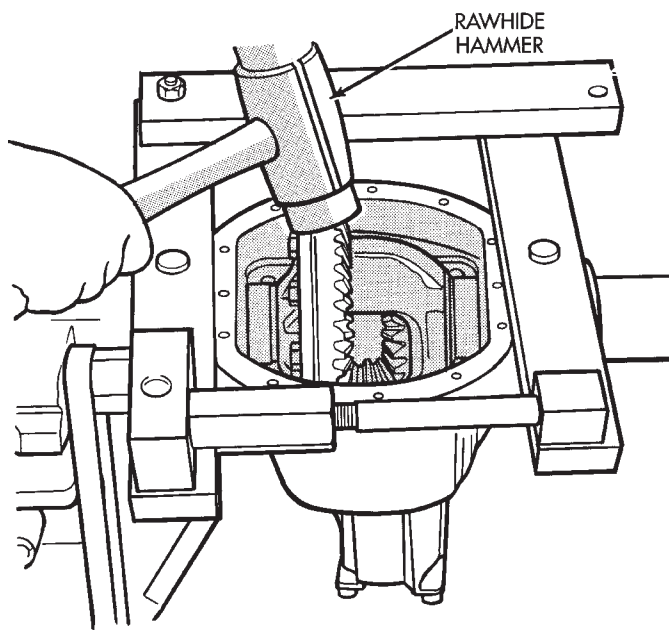
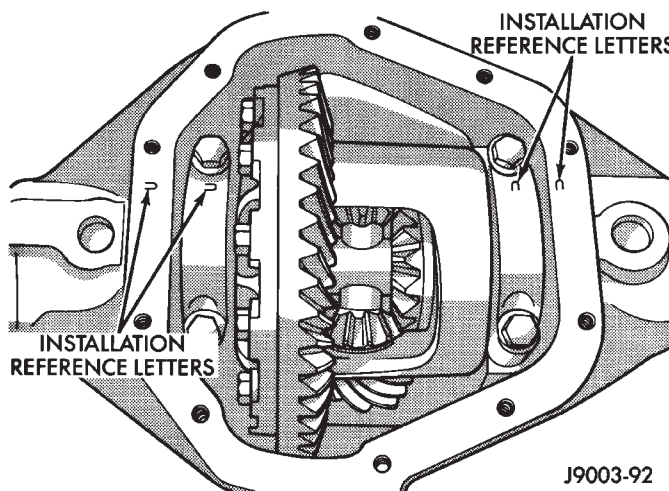

Fig. 30 Differential Installation
Fig. 31 Differential Bearing Cap Reference Letters
- (4) Remove the dial indicator.
- (5) Install differential and outboard shim(s)/spacer(s) (selected thickness) in housing.
- (6) Install case in the housing. Tap the differential case with a rawhide or rubber mallet to ensure the bearings are fully seated in the differential housing (Fig. 30).
- (7) Remove the spreader.
- (8) Install the bearing caps at their original locations (Fig. 31). Tighten the bearing cap bolts to 77 N·m (57 ft. lbs.) torque.
- (9) Install axle shafts.